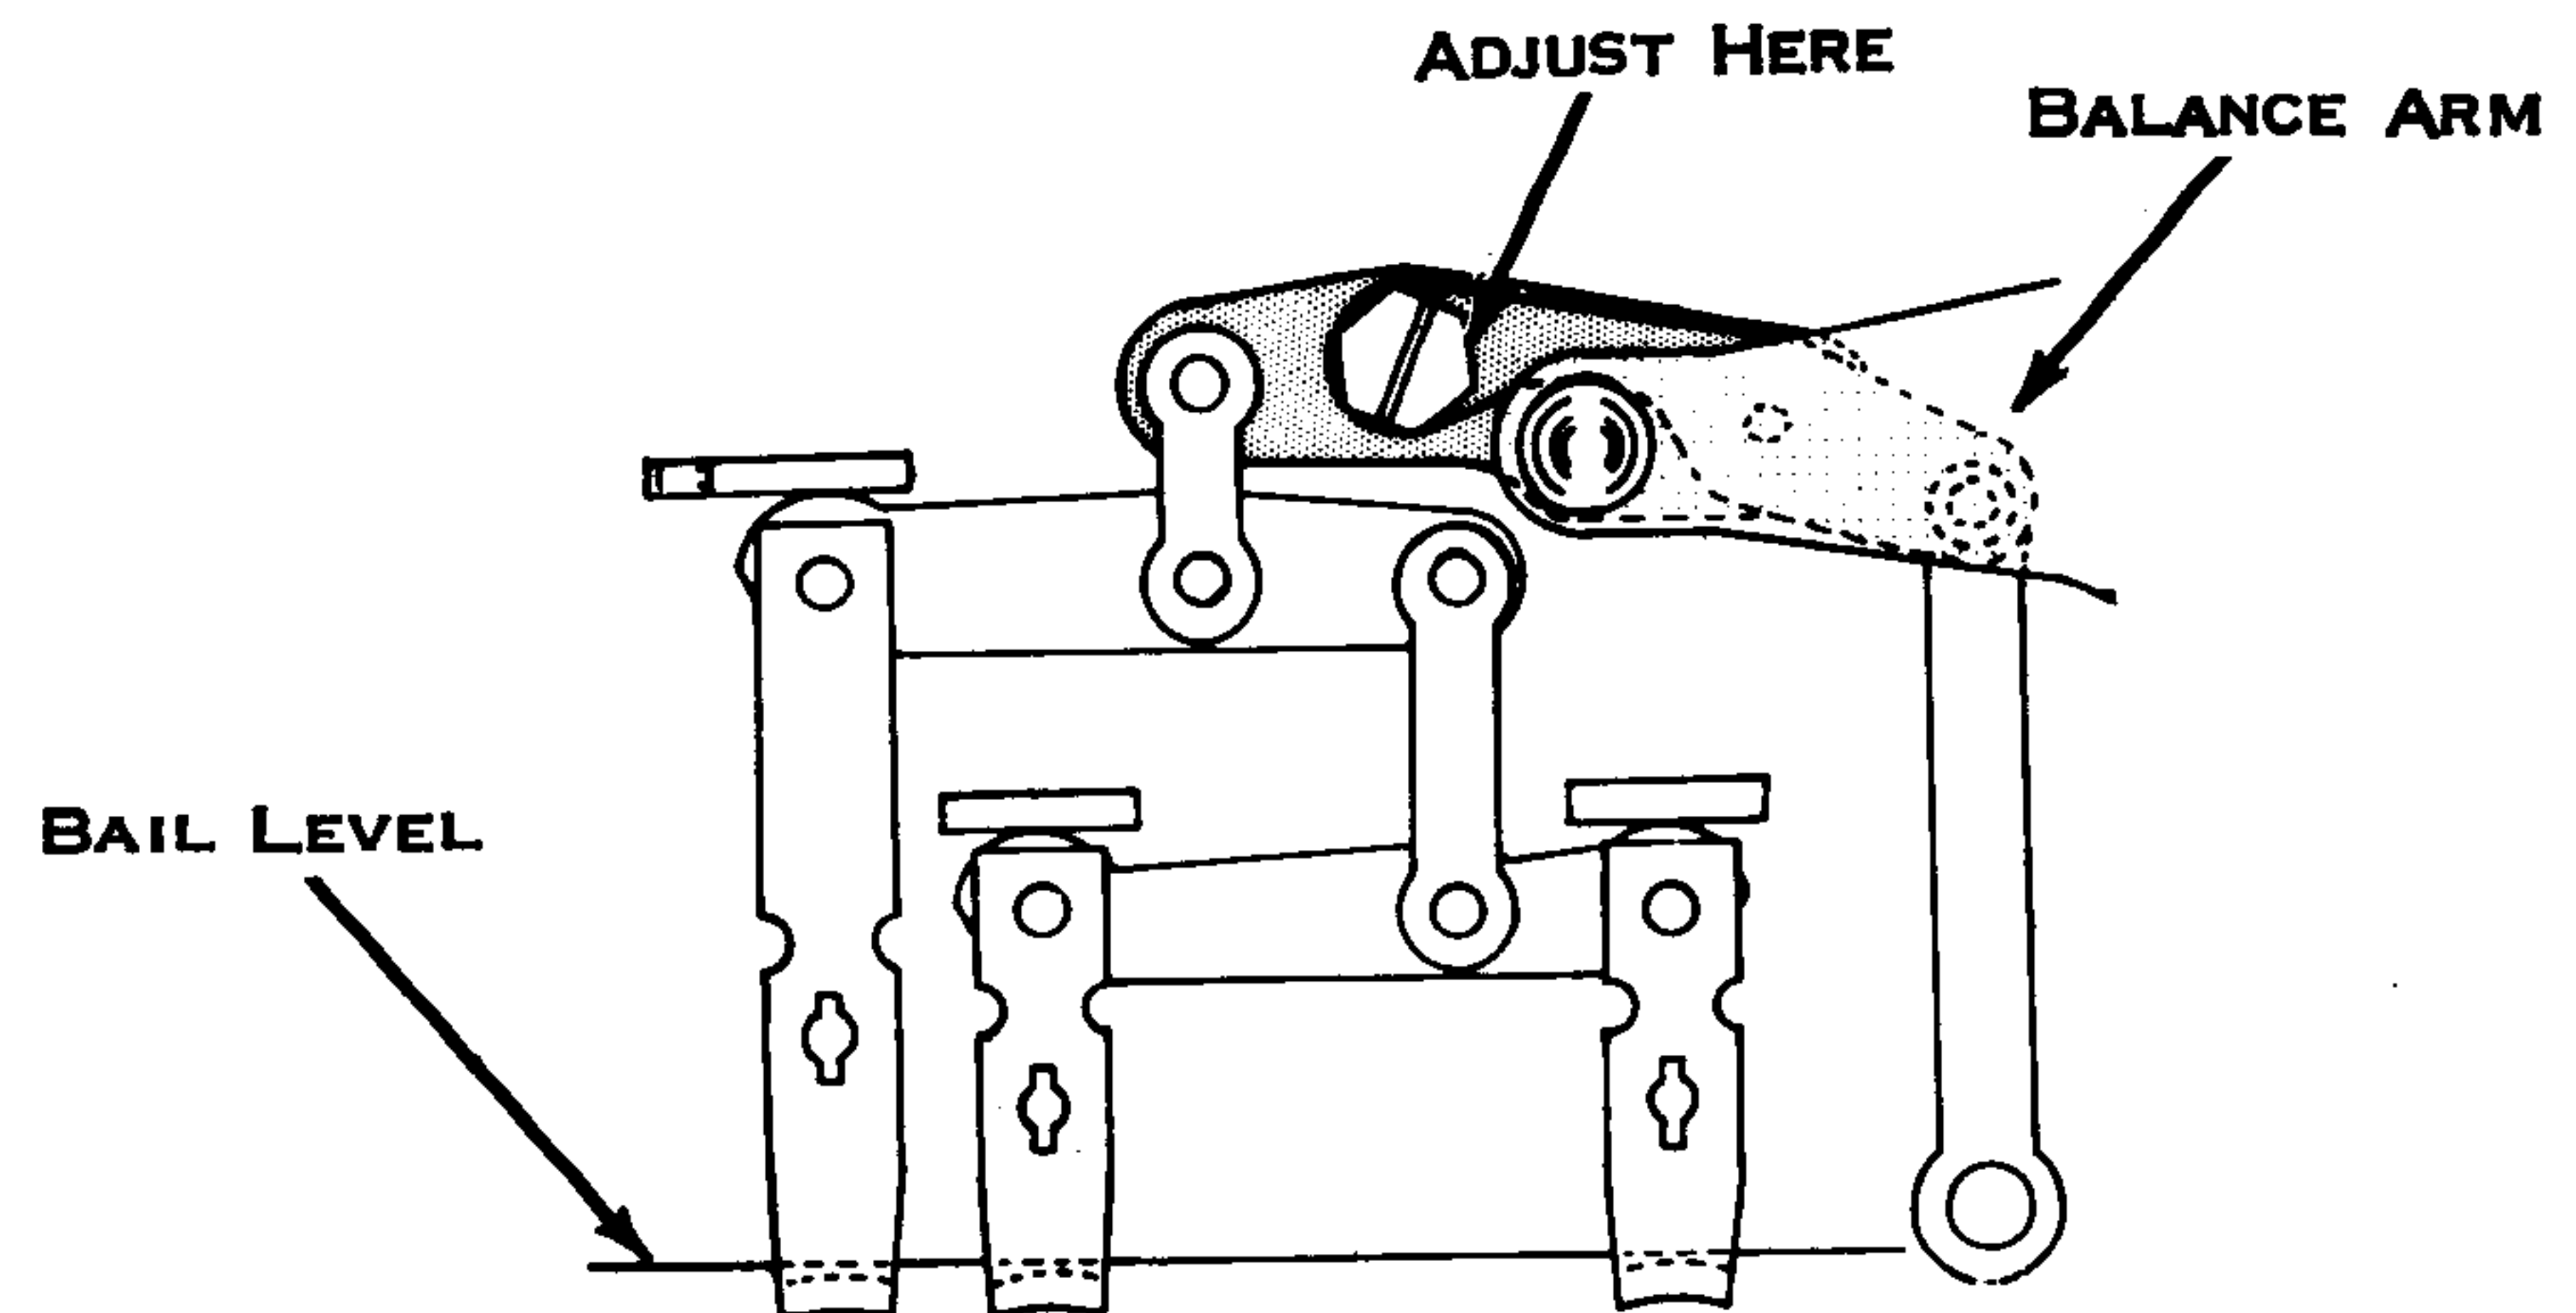

Figure 80. Balance Arm
6. Balance Arm (Fig. 80) - Position (left or right) until a half cycled upper case +5/-5 combination detents the same as a half cycled zero rotate character. Select combinations as follows: